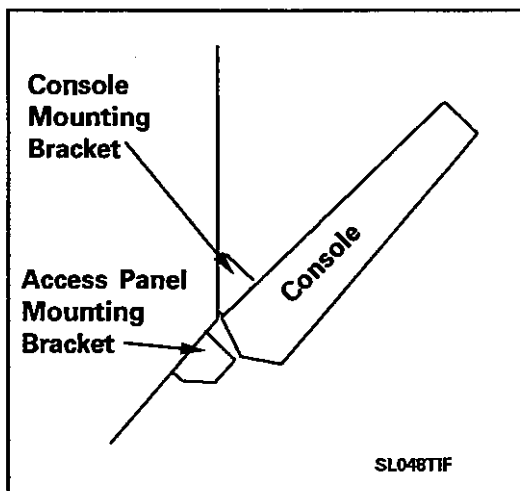

Figure 4-6
5. Slide the lower flange of the console assembly between the console mounting bracket and the dryer cabinet flange *(Figure 4-6)*.